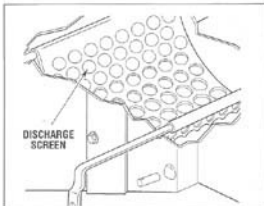

Figure 4-14: Install screen.
3. Note the two welded tubes at the ends of the screen. When the screen rods are inserted through these tubes, the screen is held securely in place. See Figure 4-14.
The small holes in the ends of the screen rods must go over the two stud pins on the machine wall. See Figures 4-14 and 4-15. Make sure that the rods go through the holes in both tubes.